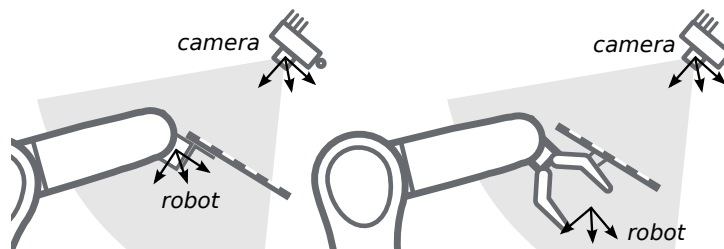

Fig. 6.17: Alternate mounting options for attaching the calibration grid to the robot
**Calibration with a statically-mounted camera** In use cases where the camera is positioned statically w.r.t. the robot, the calibration grid needs to be mounted to the robot as shown for example in Fig. 6.16 and Fig. 6.17.
**Note:** The hand-eye calibration module is completely agnostic about the exact mounting and positioning of the calibration grid w.r.t. the user-defined *robot* frame. That means, the relative positioning of the calibration grid to that frame neither needs to be known, nor it is relevant for the calibration routine, as shown in Fig. 6.17.